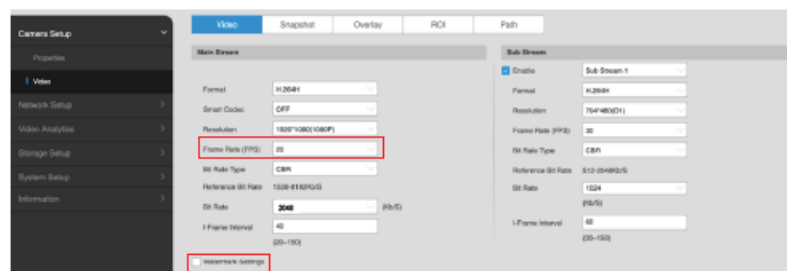

Fig. 3.3
- Select the following parameters from the drop-down list of each field (see Fig. 3.3): In the Frame Rate (FPS) field: 20 Deselect "Watermark Settings" Click "Save."